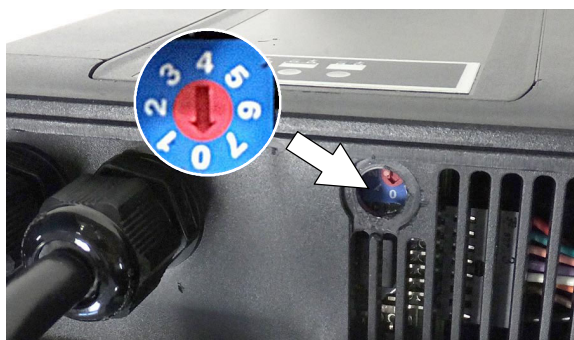

FIG. 119
6. Using a small standard screwdriver, turn the dial to the appropriate battery type according to the following chart (Figure 119).